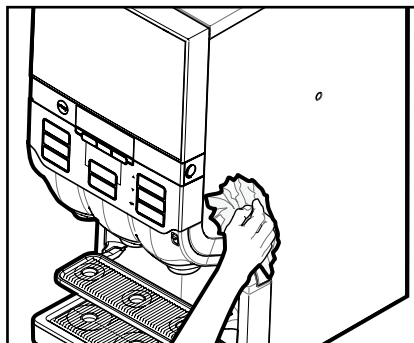

Fig. 28
6. Wipe down the exterior of the dispenser with a damp and clean cloth. (Fig. 28)